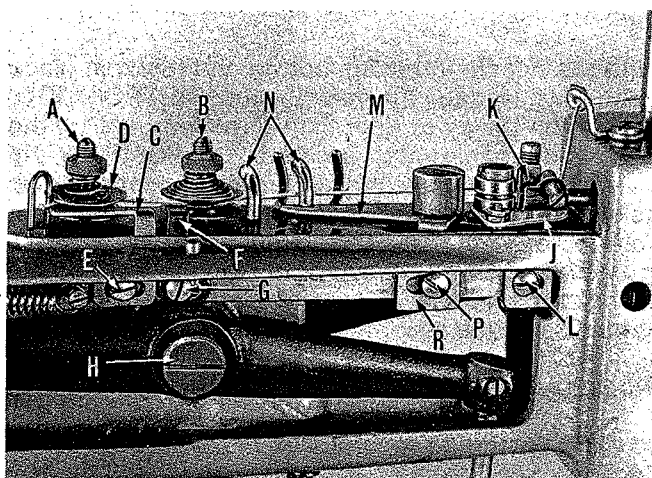
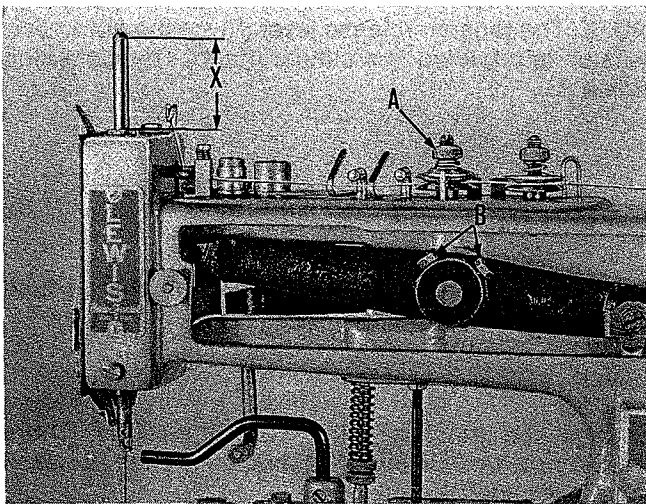

Fig. 28
Fig. 29
The main thread tension (A, Fig. 28) located behind the automatic tension (B) determines how tight the button is sewn. The amount of tension applied to the thread will vary relative to the type of thread, material and the thickness of the button used. Normally, only a light tension is required.
Thread the machine according to the Threading Diagram. Engage the machine into RUN POSITION and rotate the pulley two complete revolutions in operating direction. The tension release lever (C, Fig. 28) should be located as close as possible to the tension discs (D) of the main tension assembly (A) without making contact.
The thread nipper (J, Fig. 28) should pinch and hold the thread tight while it is being cut.
At the end of the stitching cycle, the thread pull-off lever (M, Fig. 28) should pull enough additional thread from the spool to form the first stitch of the next cycle.
Engage the machine into RUN POSITION and pull the thread taut against the thread guides (N, Fig. 28). The pull-off lever (M) should not contact the thread. Turn power "ON" and sew several buttons on scrap material. The pull-off lever is set correctly when a length of thread 1/4 inch (6.3 mm) to 3/8 inch (9.5 mm) remains on the underside of the fabric at the right hole of a two hole button; or the right rear hole of a four hole button.
Turn the tension nut (A, Fig. 29) down four or five turns. The automatic tension should release the thread when the needle bar, on its upstroke, has risen so that the lower edge of the beveled top is DIMENSION "X" (Fig. 29) above the upper needle bar bushing. DIMENSION "X" is determined by the length of the needle used as follows:
Rotate the pulley in operating direction so that the needle bar has risen to correspond to the proper DIMENSION "X". Loosen the two hexagonal head screws (B, Fig. 29) in the needle lever hub and rotate the shaft (H, Fig. 28) until the upper tension disc begins to rise. Tighten screws (B, Fig. 29).
NOTE: This is an extremely important adjustment and should be re-checked. If large loops exist on the underside of the fabric apply more tension by turning nut (A, Fig. 29) down.